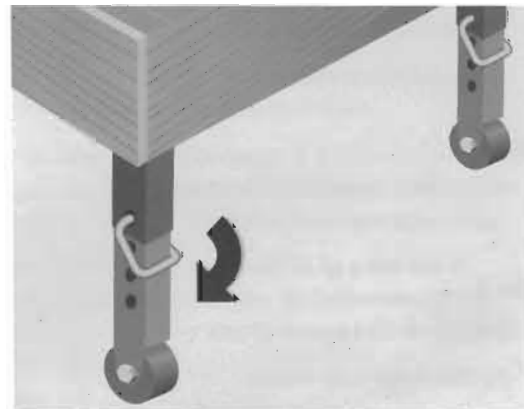

Figure 3
5. Rotate the bent side of the easy-lock pin down to secure it in place (Figure 3).